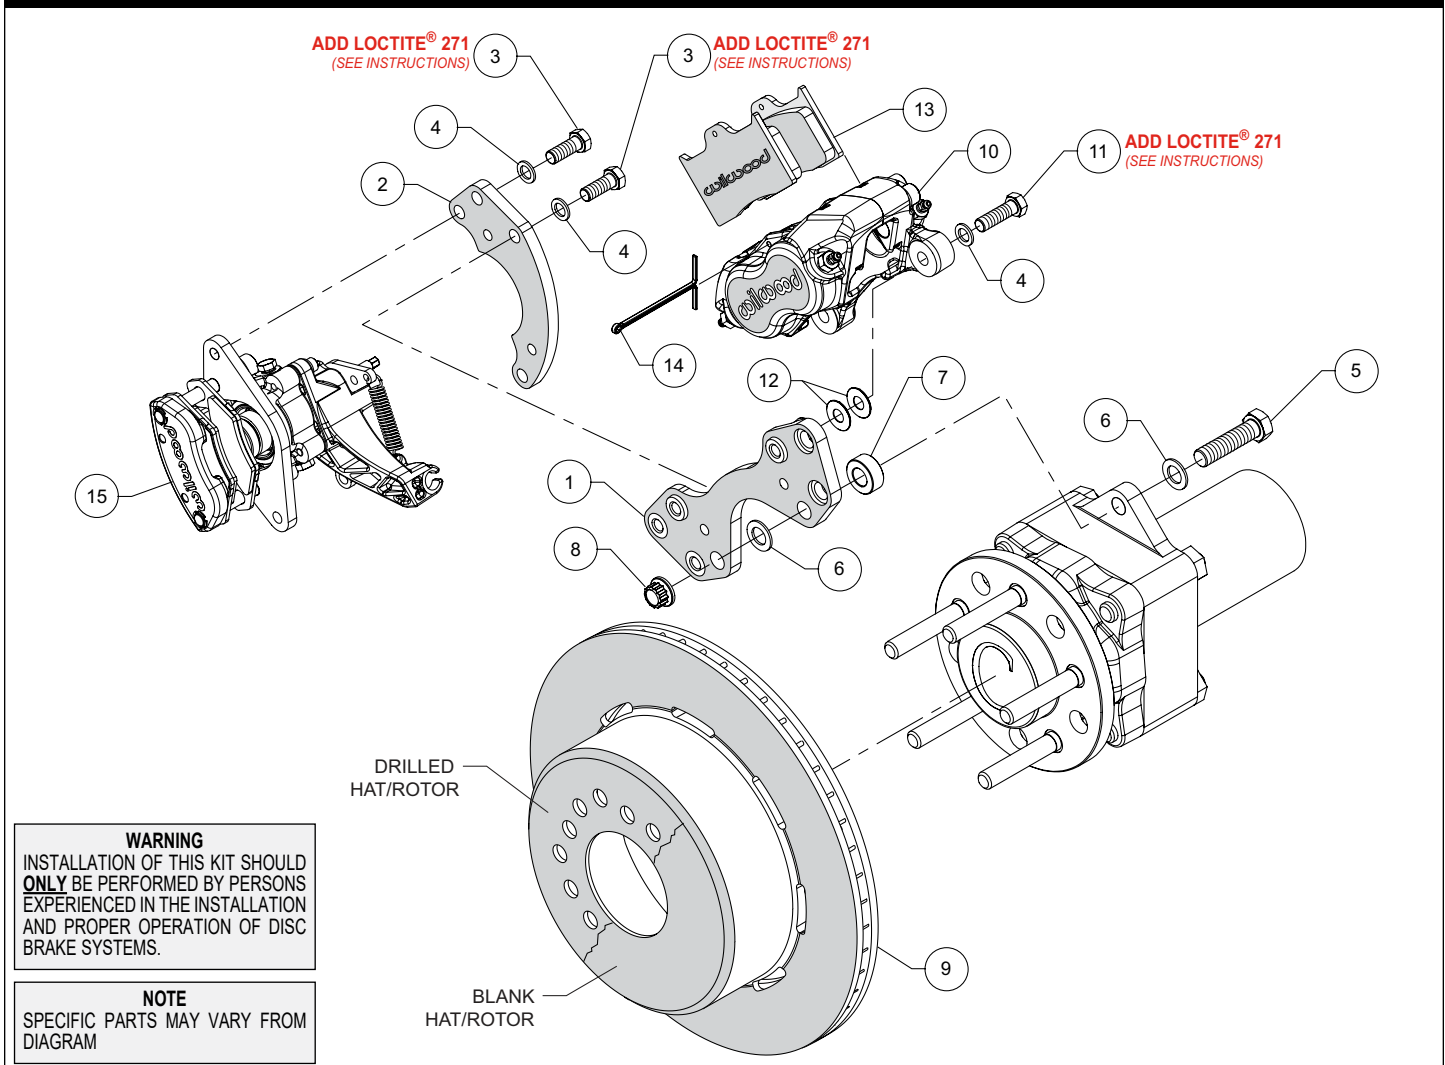
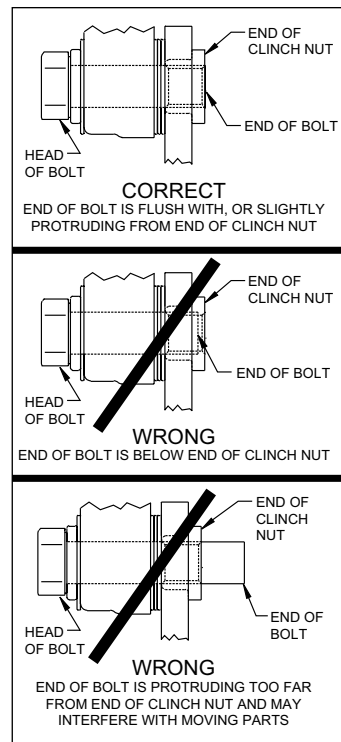

Figure 1. Typical Installation Configuration
Figure 3. Clinch Nut Engagement Diagram
NOTE: Numbers in parenthesis refer to the parts list and Figure 1 on the preceding pages.
CAUTION: All mounting bolts must fully engage clinch nuts. Be sure to check that all bolts are either flush or protruding through flanged side of clinch nut after shimming, Figure 3.
- Attach the MC4 flat caliper bracket (2) to the axle flange caliper bracket (1) using bolts (3) and washers (4) as shown in Figure 1 and Photo 1. Apply red *Loctite*® 271 to the bolt threads and torque to 40 ft-lbs.
- The caliper mount bracket assembly (1 and 2) should initially be installed on the axle with clean, dry threads on the mounting bolts. Orient the bracket assembly as shown in Figure 1, and Photo 2, and install using bolts (5), washers (6), spacer (7), and nut (8). Temporarily tighten the mounting bolts. **NOTE:** The bracket must fit squarely against the mount bosses on the axle hub. Inspect for interference from casting irregularities, machining ridges, burrs, etc. Torque lock nuts to 65 ft-lbs.
- Align the correct hole pattern in the hat/rotor (9) with the stud pattern on the axle flange and slide into place, Figure 1. **NOTE:** The rotor/hat must fit flush against the axle flange or excessive rotor run out may result. Install three lug nuts (finger tight) to keep the rotor/hat in place while continuing with the installation.
- **NOTE:** Please reference the caution statement at the beginning of the assembly instructions. Mount the caliper (10) onto the caliper mounting bracket (1) using bolts (11) and washers (4), as shown in Figure 1. Initially place two .035" thick shims (12) on each bolt between the caliper and the bracket, Photo 3. Temporarily tighten the mounting bolts and view the rotor (9) through the top opening of the caliper. The rotor should be centered in the caliper, Photo 4. If not, adjust by adding or subtracting shims (12) between the bracket and the caliper. Always use the same amount of shims on each of the two mounting bolts. **NOTE:** The end of each bolt must be flush with or slightly protruding from the head of the clinch nut, as shown in Figure 3. If necessary place spare shims (12) between washer (4) and caliper mounting ear to achieve the proper clinch nut engagement. Once the caliper alignment and clinch nut engagement are correct, remove the bolts one at a time, apply red *Loctite*® 271 to bolt threads, and torque to 40 ft-lb.
- Install the disc brake pads (13) into the caliper (10), with the friction material facing the rotor (9), Photo 5, and secure in place using cotter pin (14), Photo 6.
- Orient the parking brake caliper (15), as shown in Figure 1 and Photo 7, and mount it onto the flat bracket (2) using bolts (3) and washers (4). Apply red *Loctite*® 271 to bolt threads, and torque to 30 ft-lb.